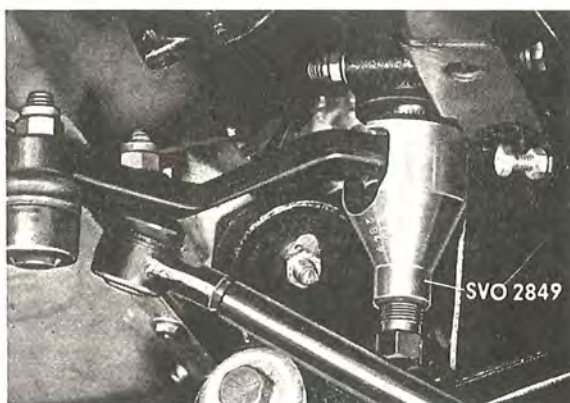

Fig. 6-45. Removing the pitman arm
2. Remove the lock nut for the pitman arm. Pull the pitman arm off with tool SVO 2849. When fitting the puller, turn the wheels fully to the right, see Fig. 6-45.